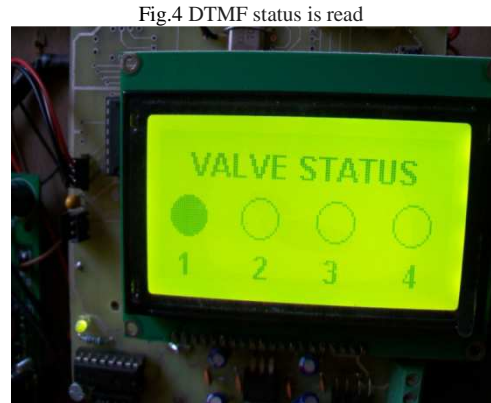

Fig.4 DTMF status is read
4. When mobile key 1 is press then respective valve no 1 will open which is shown in fig.4 and fig.5.